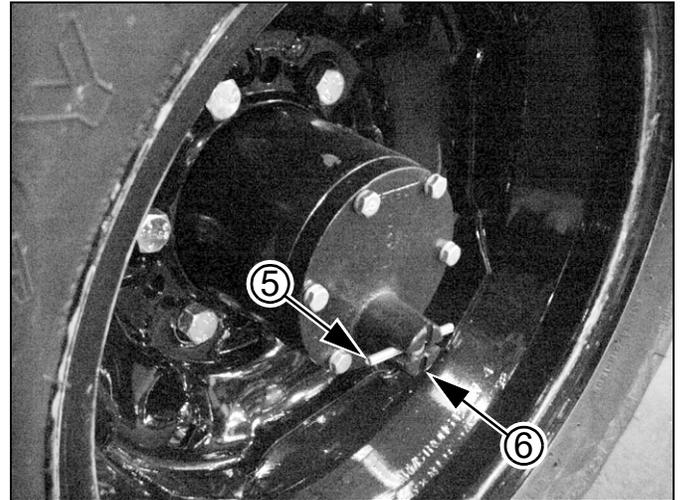
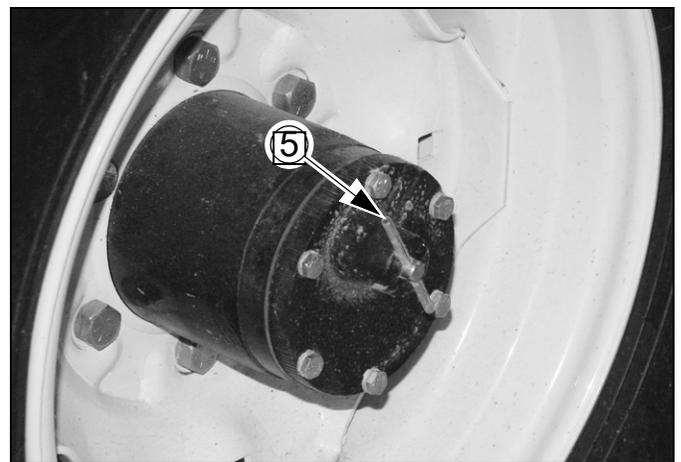

Figure 17
Figure 18
*Refer to Figure 17 and Figure 18*
6. At lock-out on left hub, pull pin ⑤ away from wheel and rest in outer shallow detents ⑥. This disengages the hub from the drive train and prevents excessive wear of drive system during transport.